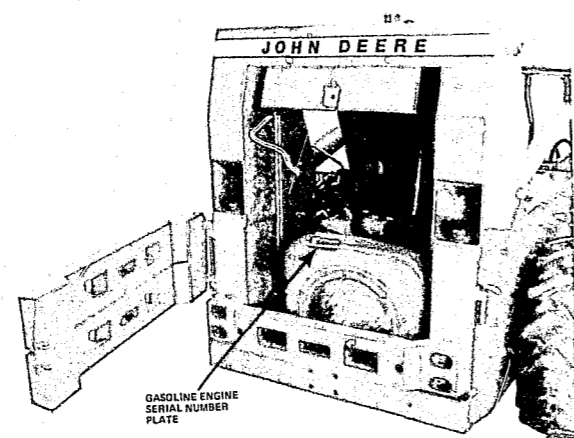

Figure 3
- The gasoline engine serial number is stamped into the engine serial number plate which is riveted to the cooling fan shroud. (See Figure 3)